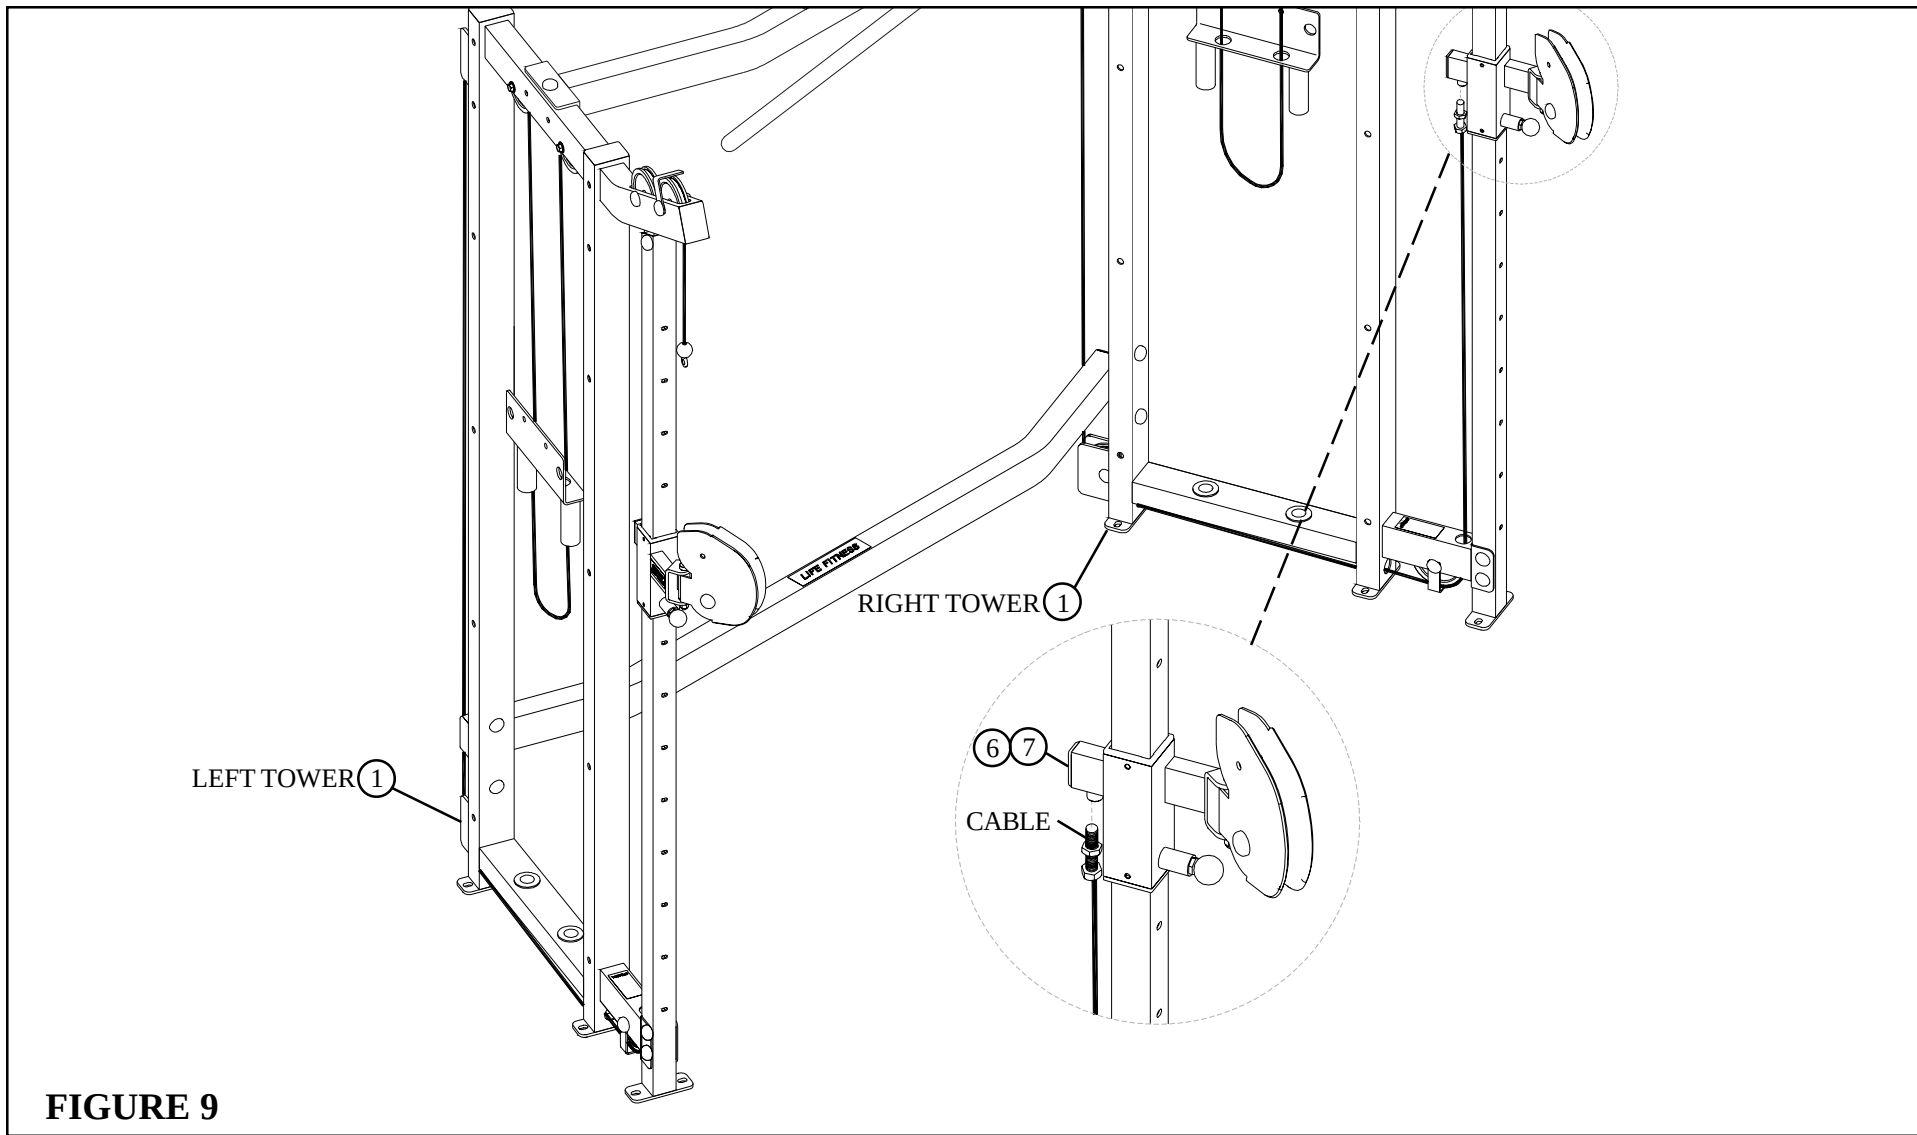

FIGURE 9
- Screw the threaded end of CABLE approximately 3/4" into the LEFT SWIVEL PULLEY (6) on the LEFT TOWER (1) and snugly tighten jam nut as shown in FIGURE 9.
- Repeat this step to assemble the CABLE to the RIGHT SWIVEL PULLEY (7) on the RIGHT TOWER (1).